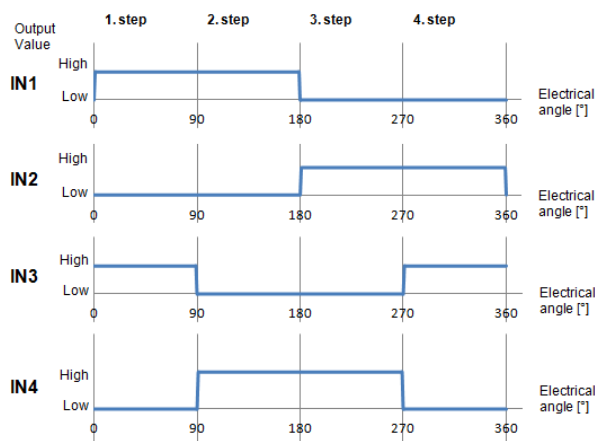
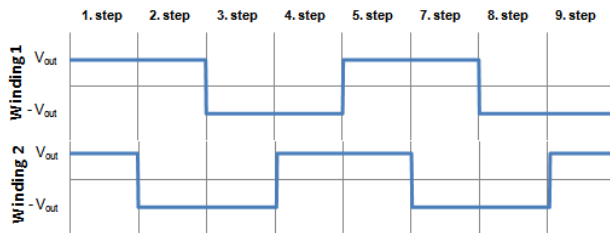

Figure 30. Signals of Logic Input Pins Generated by the MCU in Full-step Mode
Figure 31. Output of the H-Bridge Device in Full-step Mode
- Forward motor direction indicates that steps are executed in the order depicted in Figure 30. IN1 through IN4 are the input pins of the H-Bridge device which control H-Bridge outputs. These pins input to the stepper motor. You must connect the stepper motor to output pins OUT1-OUT4 and select control input pins on your MCU in the component settings.
As mentioned in Section 6.3.4, you can generate a full-stepping signal either by using four channels of a timer or by using four GPIO pins. The signal generated by the MCU (inputs of H-Bridge device) using four timer channels is shown in Figure 30. The voltage levels applied to the coils of the stepper motor are depicted in Figure 31. Note that the voltage is applied to both coils at the same time.